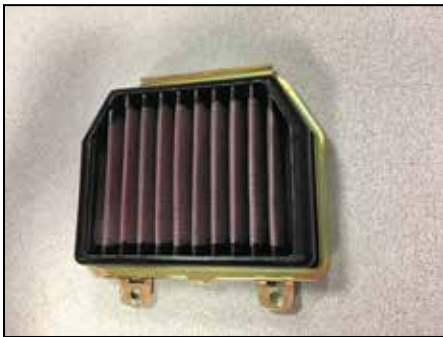

Fig. 1
2. Install the K&N® metal frame on the K&N® air filter. Fig.1